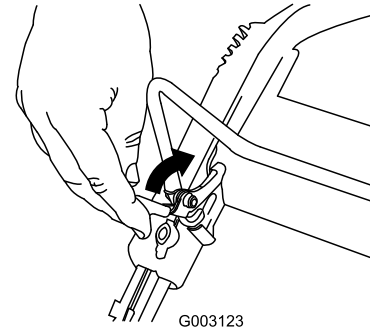

Figure 16
1. Pull the control-bar lock back (Figure 16).